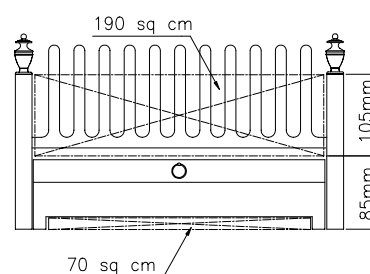

Fig. 1 Optional fret min. ventilation requirement
If a fret from another manufacturer is being used, it must comply with the minimum free area requirements shown in Fig. 1.
**Note:** If a fret from another manufacturer is being used, it must comply with the minimum free area requirements of Fig. 1.